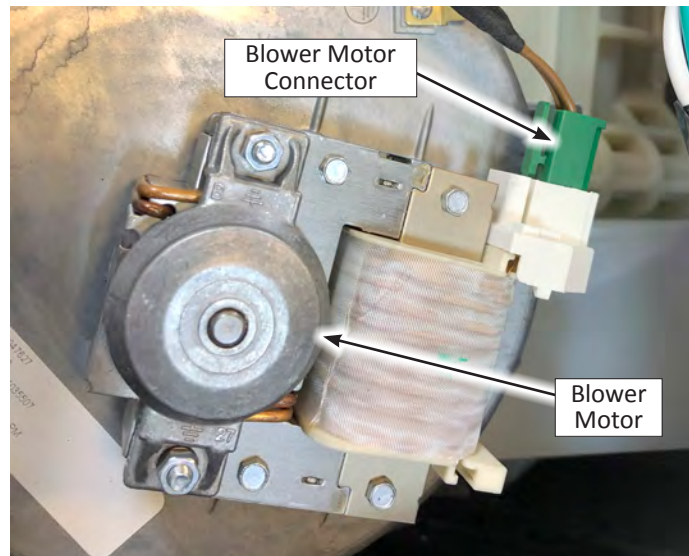

Figure 1 - Dry Blower Motor
6. With an ohmmeter, measure the resistance across the two blower motor terminals (see Figure 1). Resistance should be **9.0–10.6 Ω** .